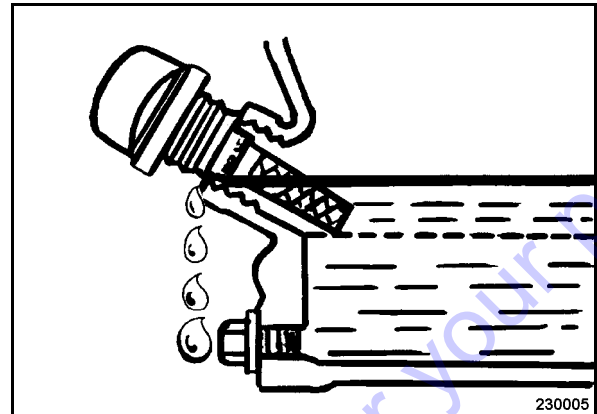

Fig. 51
- Position the engine horizontally and unscrew the oil dipstick (Fig. 51).